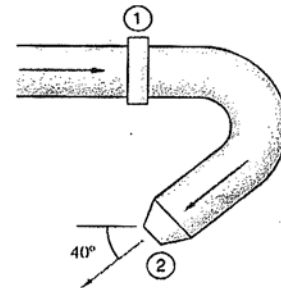

Fig. Q5.
- (b) Water at 20°C flows through the elbow in Fig. Q5 and exits to the atmosphere. The pipe diameter is $D_1 = 10$ cm, while $D_2 = 3$ cm. At a weight flow rate of 150 N/s, the pressure $p_1 = 2.3$ atm (gauge). Neglecting the weight of water and elbow, estimate the force on the flange bolts at Section 1. (10+10)